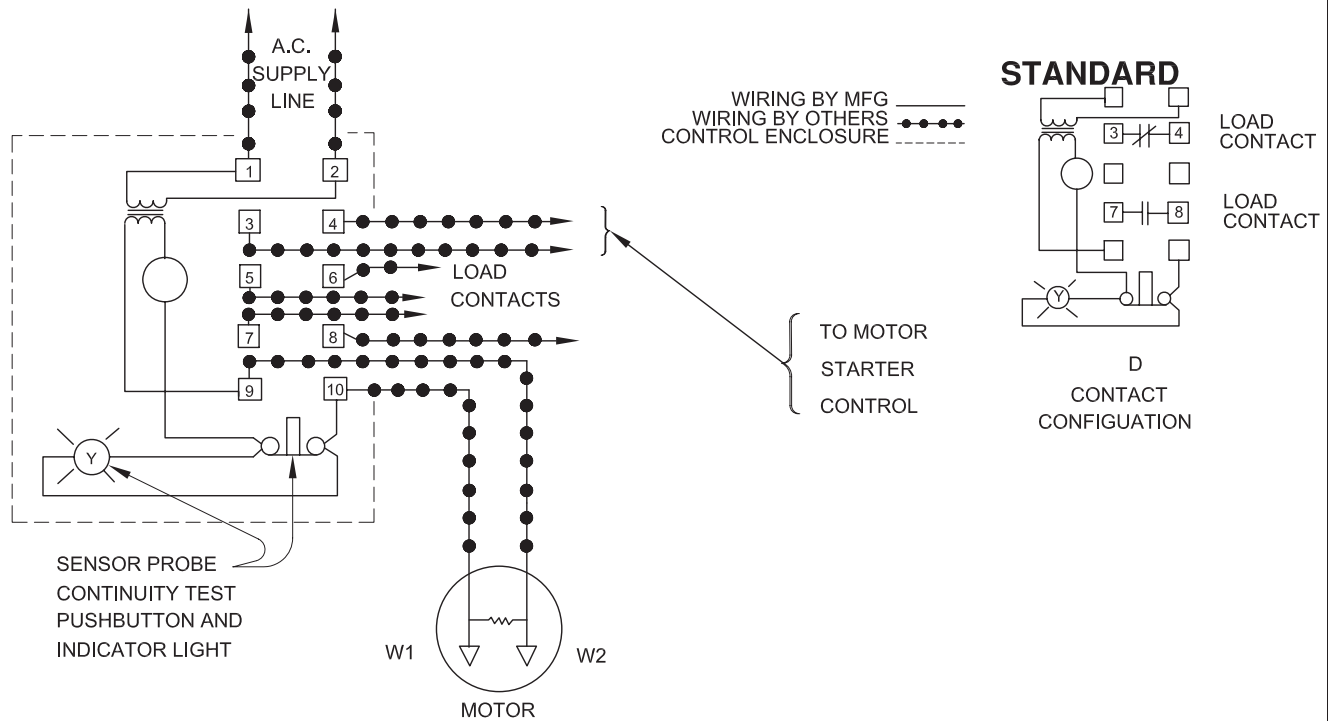

FIGURE 5
- c. A moisture detection circuit with continuity test circuit (See Fig. 5)
To expose outer shaft seal (4) for examination, remove Impeller and Volute per Section E-1.1. Set motor assembly (1) in the inverted position to prevent loss of oil. Remove snap ring from motor shaft, then retaining ring (5), spring (4C) and rotating member (4B) from shaft, See Figure 5 Examine all seal parts and especially contact faces. Inspect seal for signs of wear such as uneven wear pattern on stationary members, chips and scratches on either seal face. **DO NOT** interchange seal components, replace the entire shaft seal (4). If replacing seal, remove stationary (4A) from mounting plate by prying out with flat screw driver.